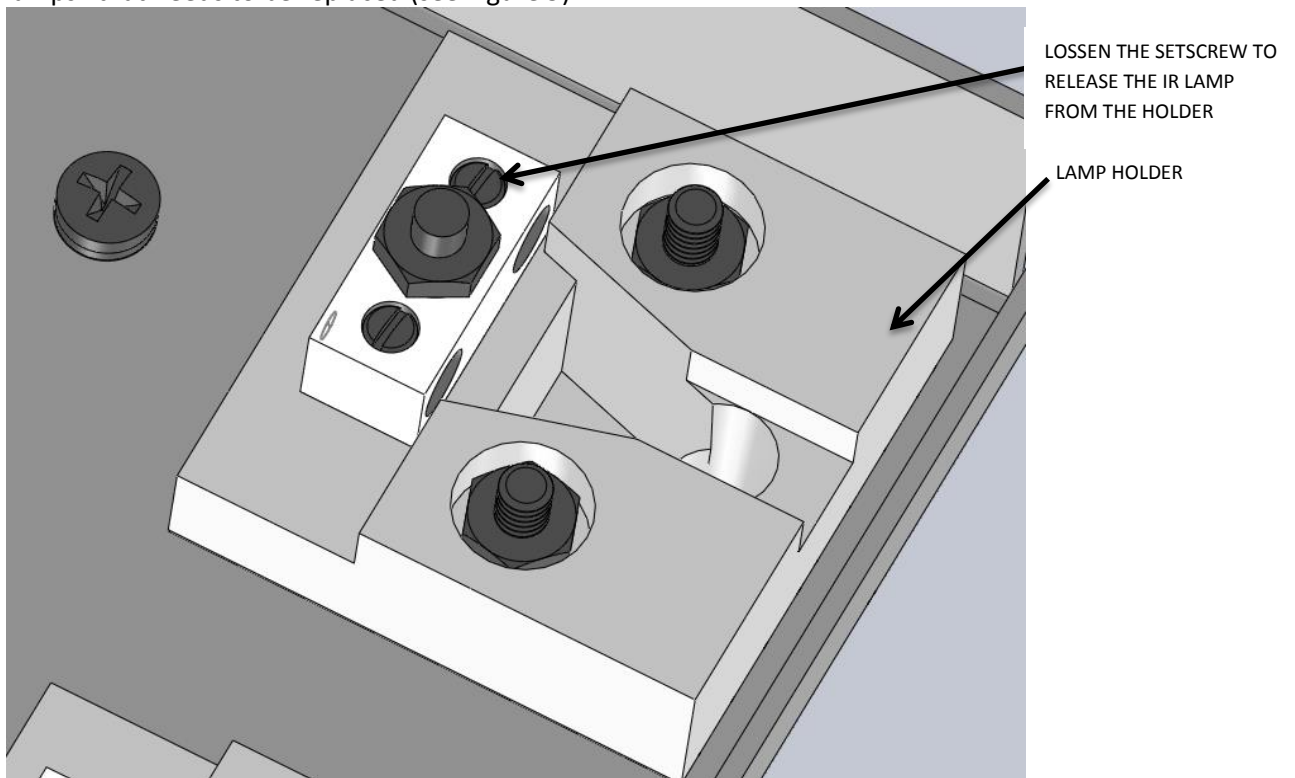

Figure 9 Infrared Lamp Holder
- Using a flat screwdriver, loosen only the set screws that hold both end lead wire of the infrared lamps that needs to be replaced (see Figure 9).